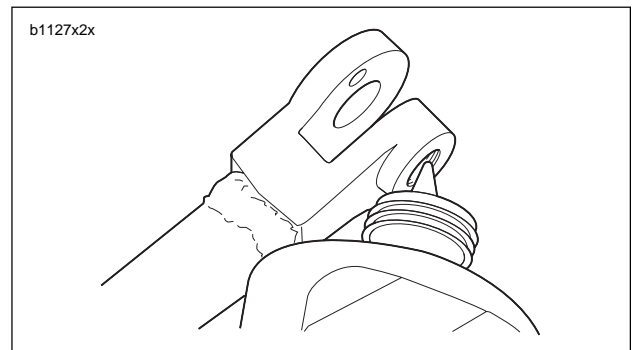

Figure 2-131. Threaded Area for Loctite Application
- b. See Figure 2-131. Apply LOCTITE 272 (red) to threaded area (clevis) of sidestand leg.